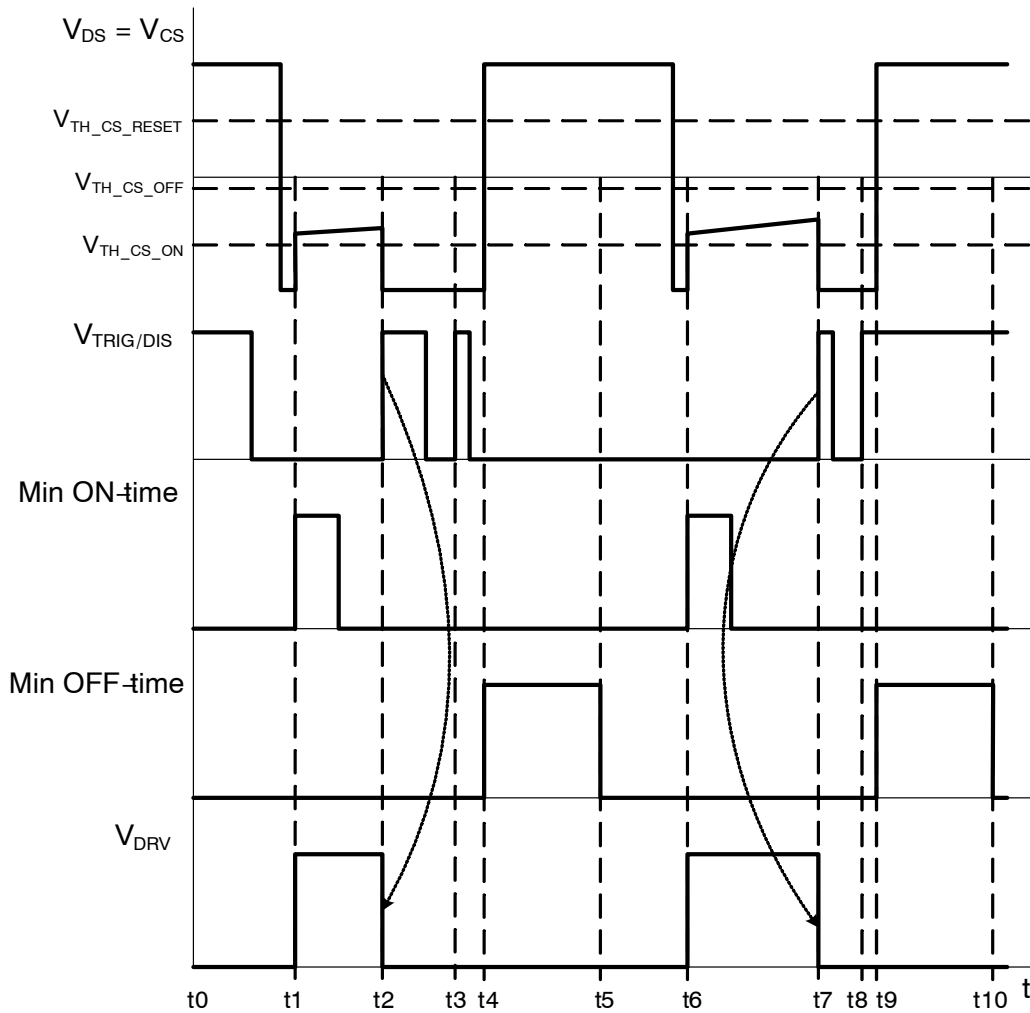

Figure 57. Trigger Input Functionality Waveforms – Two Pulses at One Cycle
Figure 57 shows IC behavior in case the trigger signal features two pulses during one cycle of the V_{DS} (CS) signal. The trigger goes low enables the DRV just before time t1 and DRV turns-on because the V_{DS} voltage drops under V_{TH_CS_ON} threshold voltage. The trigger signal disables driver at time t2. The trigger drops down to LOW level in time t3, but IC waits for complete minimum off-time. Minimum off-time execution is blocked until CS pin voltage